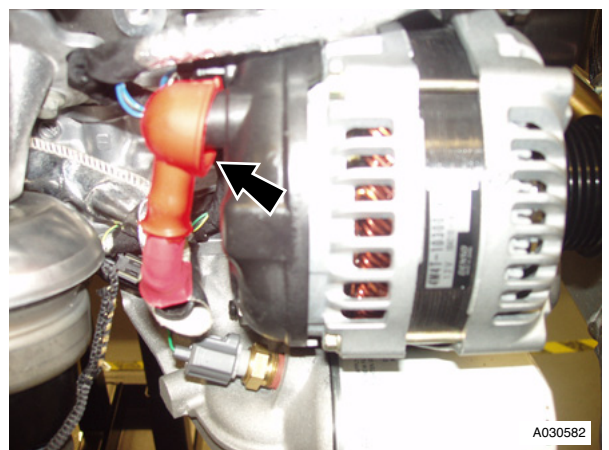

Fig. 9
25. Disconnect multiplug (x1) alternator (see Fig. 9).